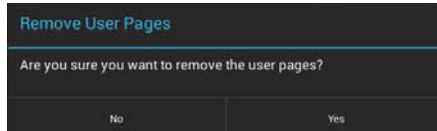

FIG. 140 Remove User Pages prompt
1. In the *Reset and Update* page, press **Remove User Pages** to open the *Remove User Pages* window (FIG. 140).